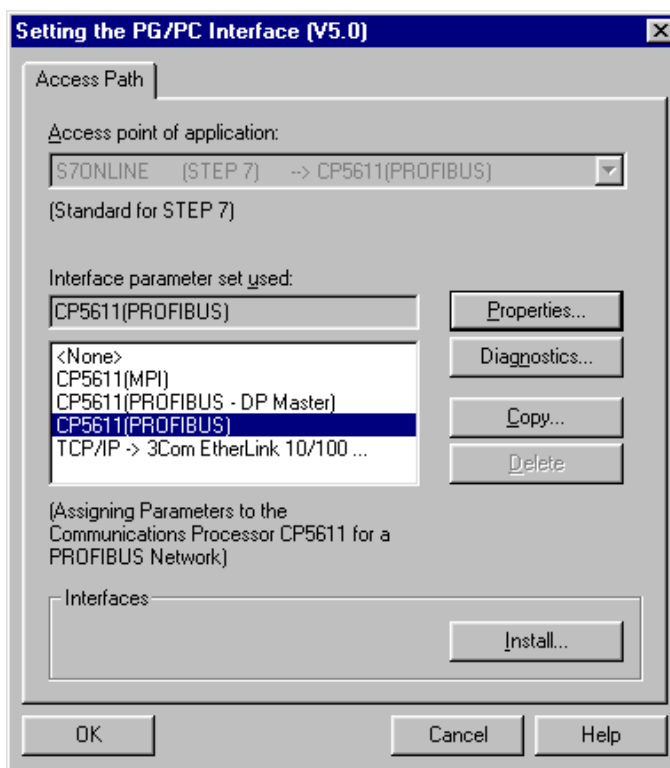

Figure 2.10 - Simatic PDM - Set PG/PC Interface
- 9 - In order to provide online communication, set up a link between a PROFIBUS PG/PC interface and the PROFIBUS devices. For this purpose, select the *Option* menu at the main menu and then select "Set PG/PC Interface". See Figure 2.10.